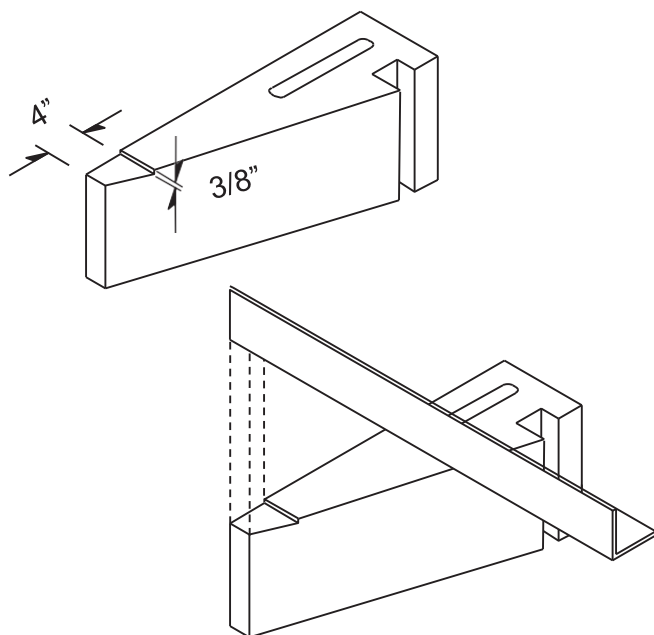

FIGURE 21
5. This steel angle sits on top of the uppermost side wall component with the four-inch leg in the horizontal position. To avoid a thickness problem with the placement of the steel angle it is necessary to cut a notch in the top side wall component where the angle is to sit. This notch should be cut approximately 3/8" deep. The notch should start at the front face of the side wall component (at both the left- and right-hand walls) and run to a point 4" back toward the firebox. **(Figure 21)**